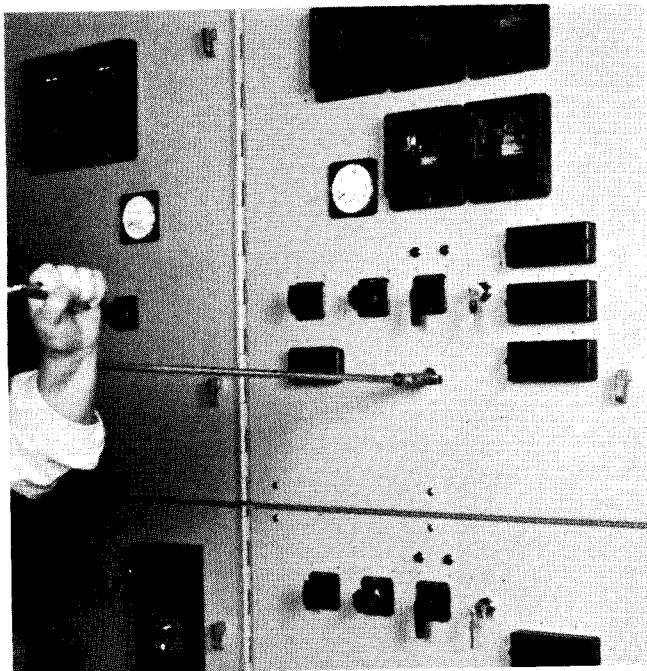
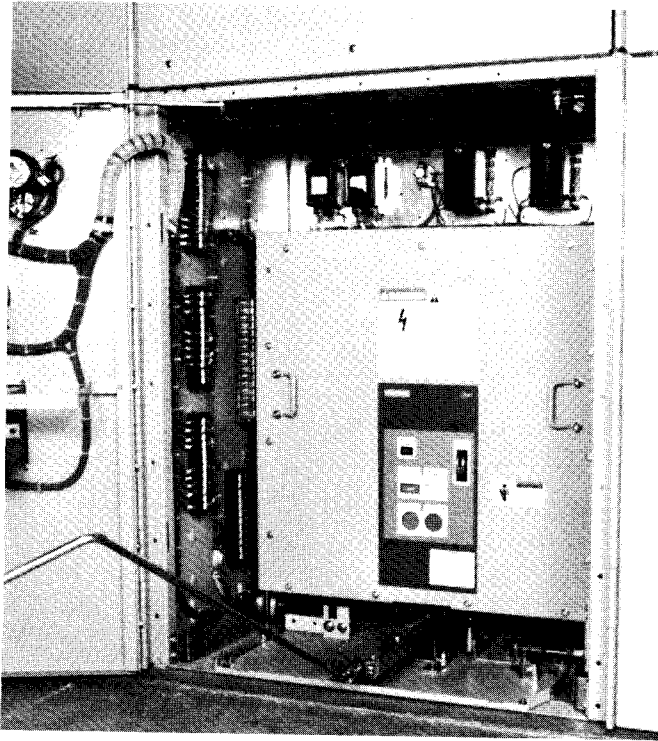
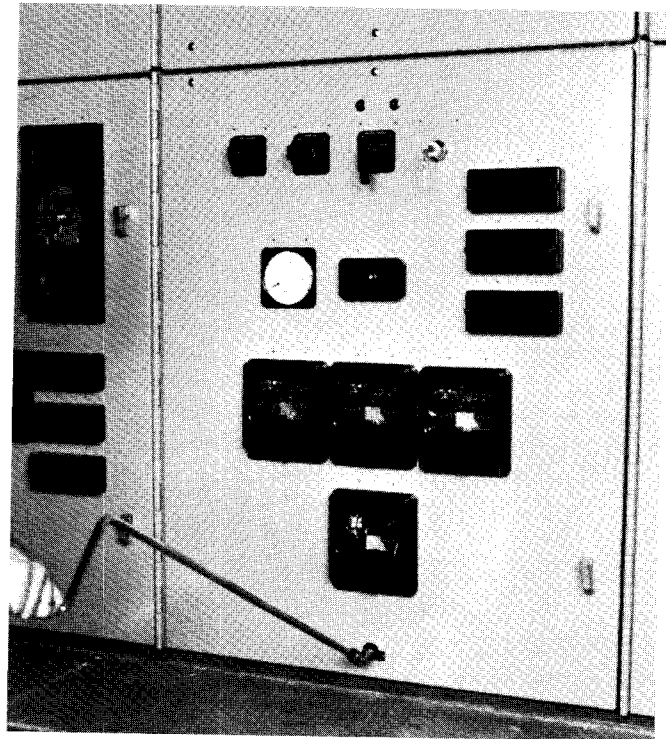

Figure 36A. Racking Position
Figure 40A. Breaker Racking (Door Open)
Figure 40B. Breaker Racking (Door Closed)
1. Push the racking interlock latch in and insert the racking crank on the racking screw on the floor of the breaker cell as shown in **Figure 36A**. (Upper cell) or **Figure 40A/40B** (Lower cell).
2. Push the racking interlock in and insert the racking crank on the racking screw into the upper breaker as shown in **Figure 36A**.
The circuit breaker racking method has been designed to be used with the instrument door either open (**Figure 40a**) or closed (**Figure 40b**). Moving the breaker between the "CONNECT" and "TEST" or "DISCONNECT" positions with the door closed provides additional protection to the operator and is the recommended procedure.